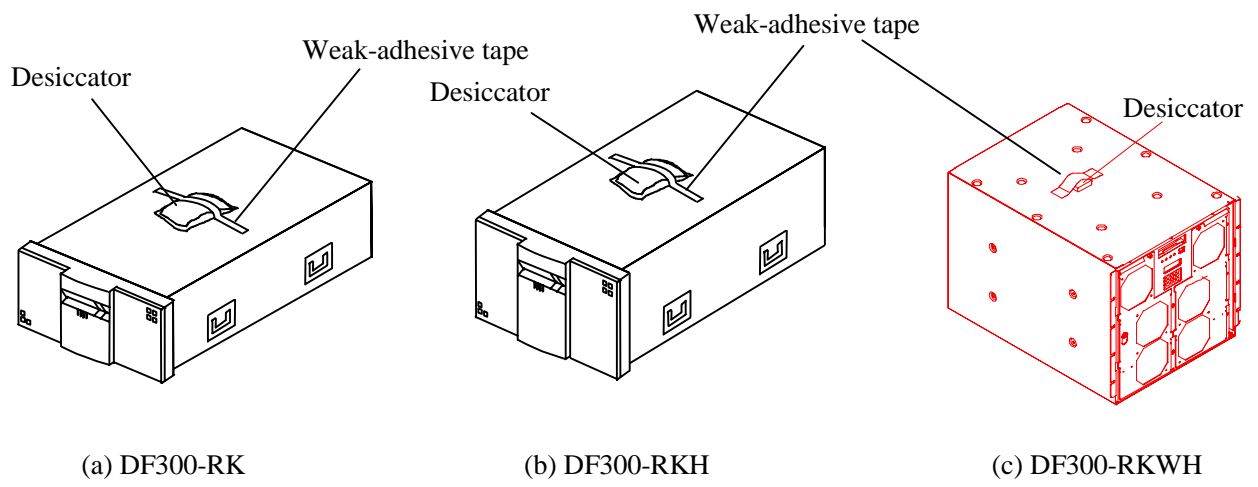

Figure 3.4 Location of Desiccate being Attached
7. Remove the desiccator on the subsystem. (See figure 3.4.)